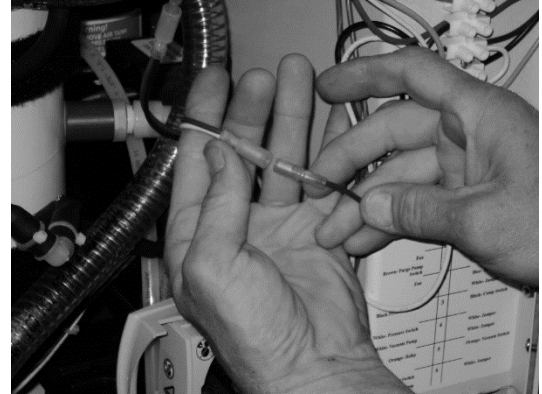

Fig. 8
- 9 Disconnect the bullet connectors from the purge pump wires. (Fig. 8)